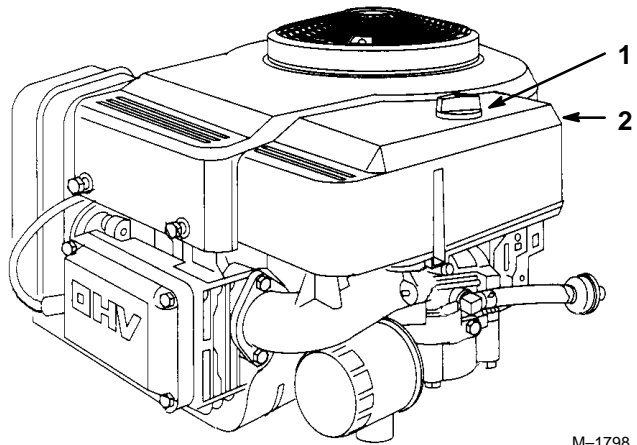

Figure 25
3. Clean around the air cleaner to prevent dirt from getting into the engine and causing damage. Unscrew the knob and remove the air cleaner cover (Fig. 25).
3. Install the air cleaner cover and knob (Fig. 25). Tighten the knob snugly.